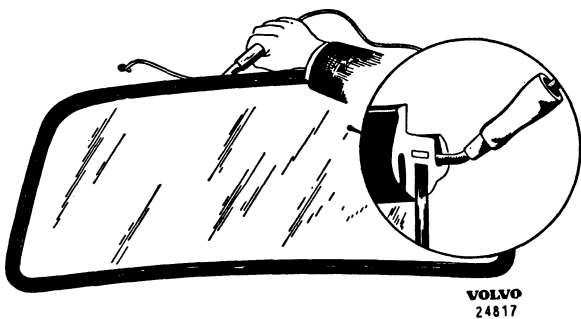

Fig. 60. Placing cord in rubber strip
2. Fit a cord (preferably terylene) of a suitable size in the groove of the rubber strip for the sheet metal edge, beginning at the top centre as shown in Fig. 60.